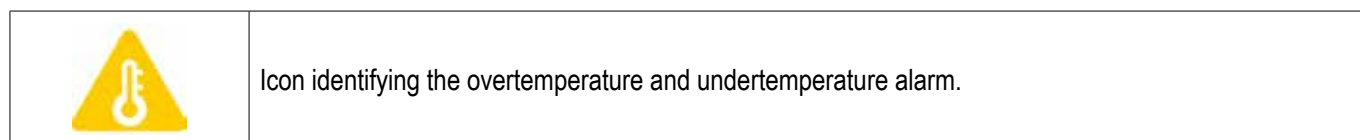

FIG. ALL1
**The safety condition causes the output dedicated to the supply of the secondary pump for the MIX circuit (OUT 8) to turn off, and the mixing valve to close completely.** In this situation, the icon is displayed on the CMix overview screen (see chap. 5.5, fig. ALL1).
When the safety thresholds are reached by the mixed circuit flow probe (T outlet MIX), this causes the deactivation of OUT 8 (Circ pump MIX) and the total closure of the relative mixing valve, generating the alarms of **MIX overtemperature** and **MIX undertemperature**. These alarms are accompanied by the signalling icon shown in (see fig. ALL1).